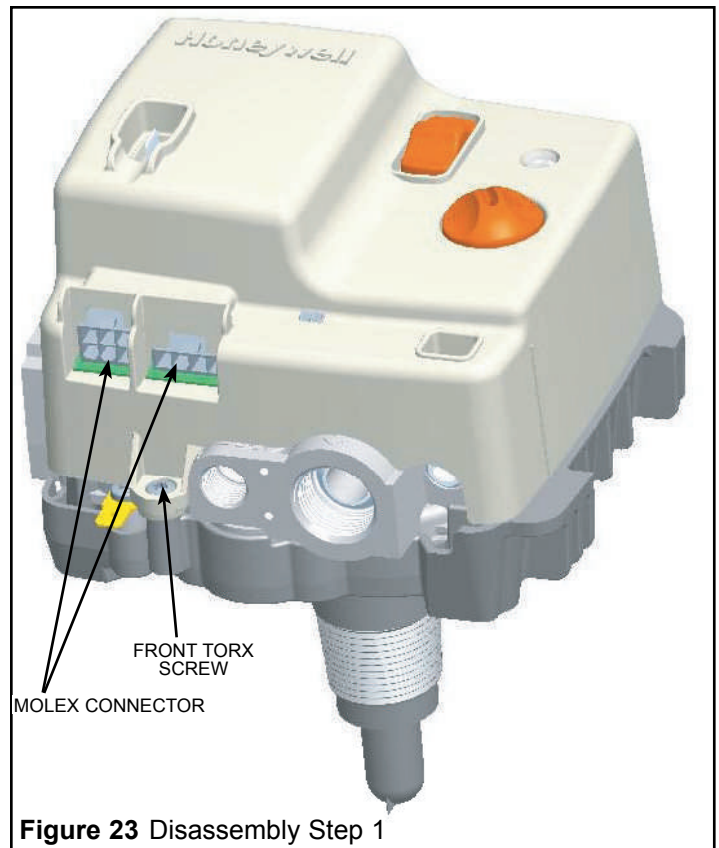

Figure 23 Disassembly Step 1
1. Remove the front Torx screw and the 2 molex connectors from the bottom of the gas control as illustrated in Figure 23.